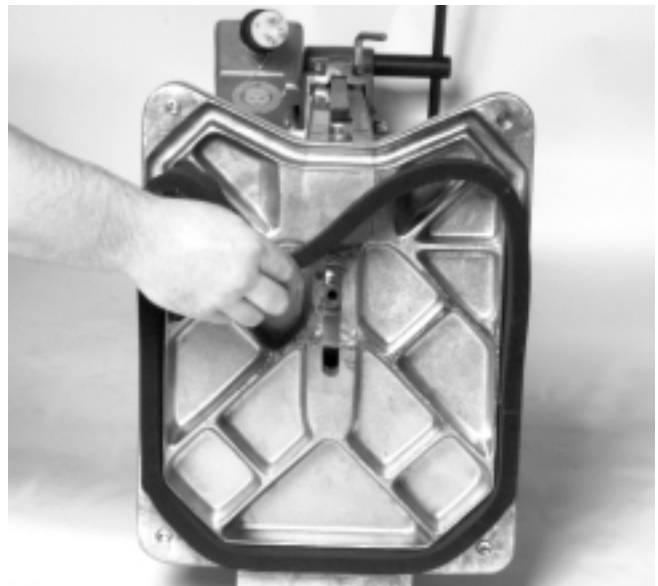

Figure 3 – Installing Vacuum Seal
1. Turn machine on its back and insert vacuum seal (Figure 3) under machine base, inspecting first to ensure seal is in good condition and sealing groove is clean.
5. The drilling machine should now be vacuum anchored. If machine does not anchor, add weight by standing on vacuum base. It should now anchor with vacuum gauge reading 20" of mercury minimum. If not, check the floor and vacuum seal (Figure 3) for leaks.